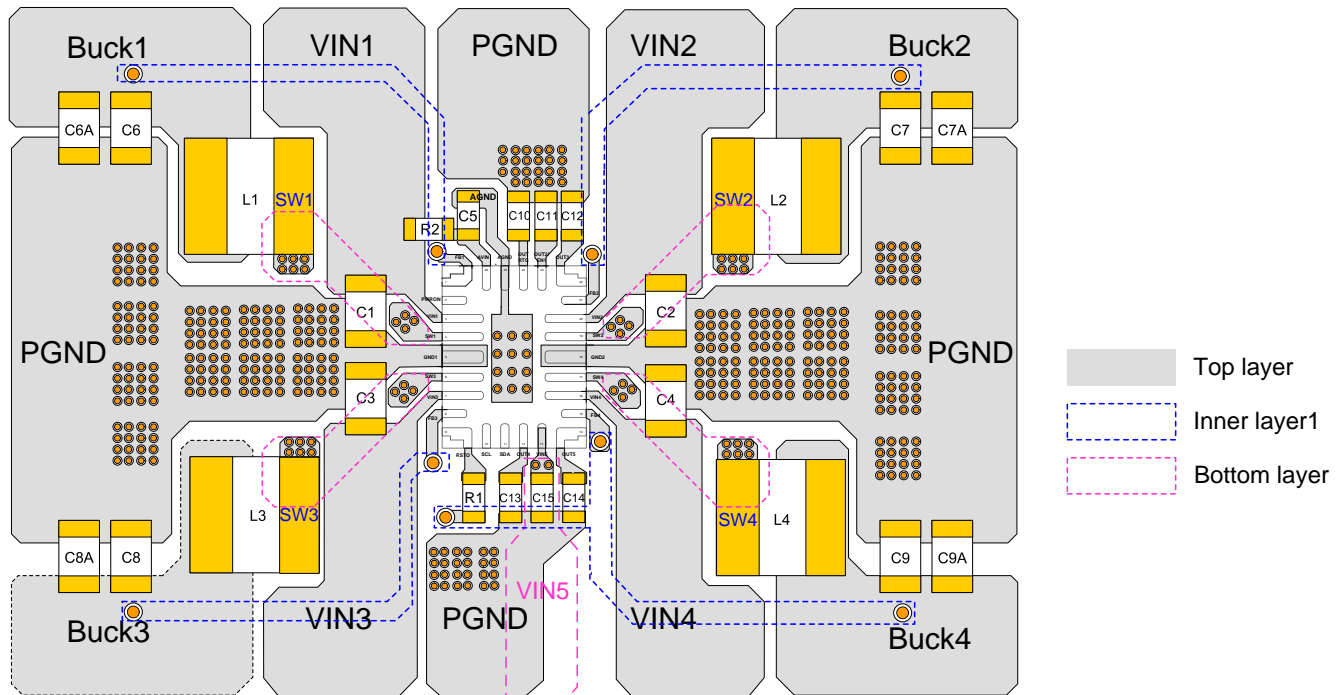

Figure 16: Recommended PCB Layout ⁽¹⁹⁾
17) The recommended external components are based on Figure 16 on page 39.
PCB layout is critical for stable operation. It is recommended to use a 4-layer board for optimal performance. For the best results, refer to Figure 16 and follow the guidelines below: